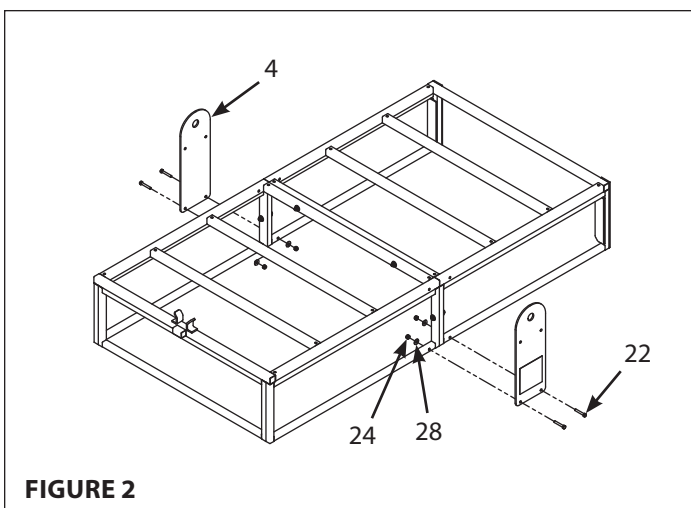

FIGURE 2
3. Attach the top of the two axle mounting plates (4) to the trailer frame assembly with four M6x40mm bolts (22), M6 steel washers (28) and M6 locknuts (24). **SEE FIGURE 2**